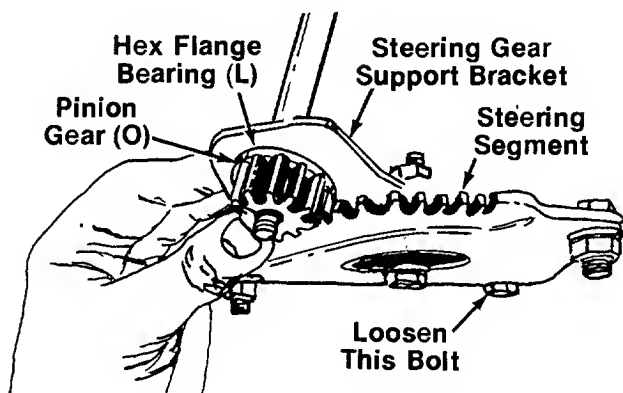
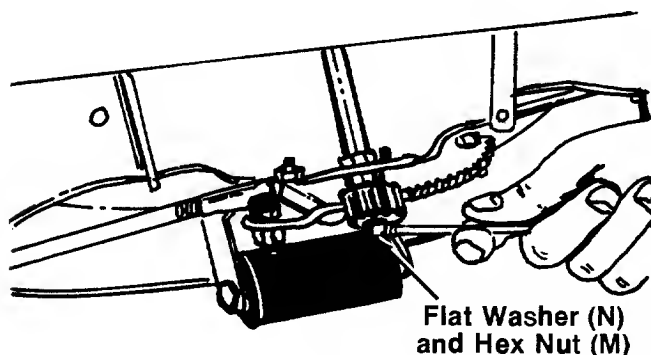

FIGURE 8.
FIGURE 9.
8. **Style A**—Insert the **steering shaft** with assembled parts through the **steering housing cover**. The lower end of the shaft should extend through the hole in the front end of the **steering gear support bracket** (Ref. No. 12 on page 26). See figure 8.
**Style B**—Insert the **steering shaft** through the **steering housing cover**. Place flat washer (P) and plastic spacer (Q) over end of **steering shaft** before inserting the shaft through the hole in the front end of the **steering gear support bracket** (Ref. No. 12 on page 26).
10. Place **hex flange bearing (L)**, flat side down, over the end of the **steering shaft**, and seat it into the **steering gear support bracket**. See figure 8.
11. Position **pinion gear (O)** over splined collar on **steering shaft**. Then place **flat washer (N)** ( $\frac{5}{8}$ " diameter) on shaft and secure with **hex nut (M)** ( $\frac{5}{16}$ " I.D.). Do not tighten at this time.
13. Now tighten the hex nut (M) which secures the pinion gear. See figure 9.